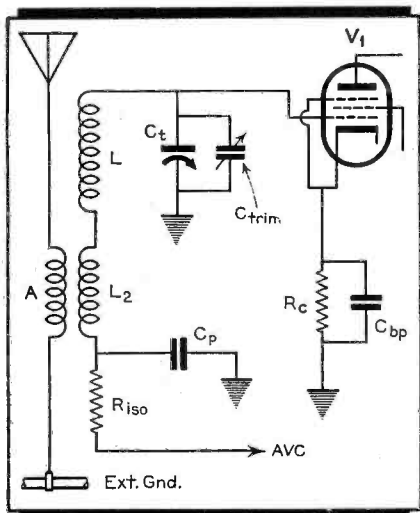

Fig. 7. The combined inductances of loop L and loading coil  $L_2$  equal the single inductance L of the other figures.
Fig. 7 employs a loop (L) with a few turns and a high-Q loading coil in series with the lower end. This latter coil is inductively coupled to a primary which provides for an external antenna connection. This type of circuit lends itself particularly to multi-band receivers where the loop is used for the broadcast band only, but is also used in higher priced single-band sets.